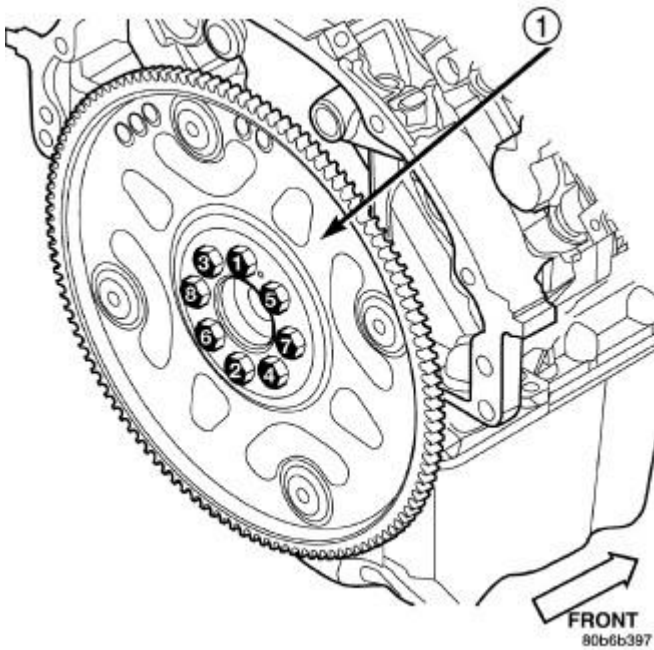

Fig. 90: Flexplate Removal/Tightening Sequence
2. Tighten the flexplate (1) retaining bolts to 95 N.m (70 ft. lbs.) in the sequence shown in illustration. Refer to **Fig. 90**.